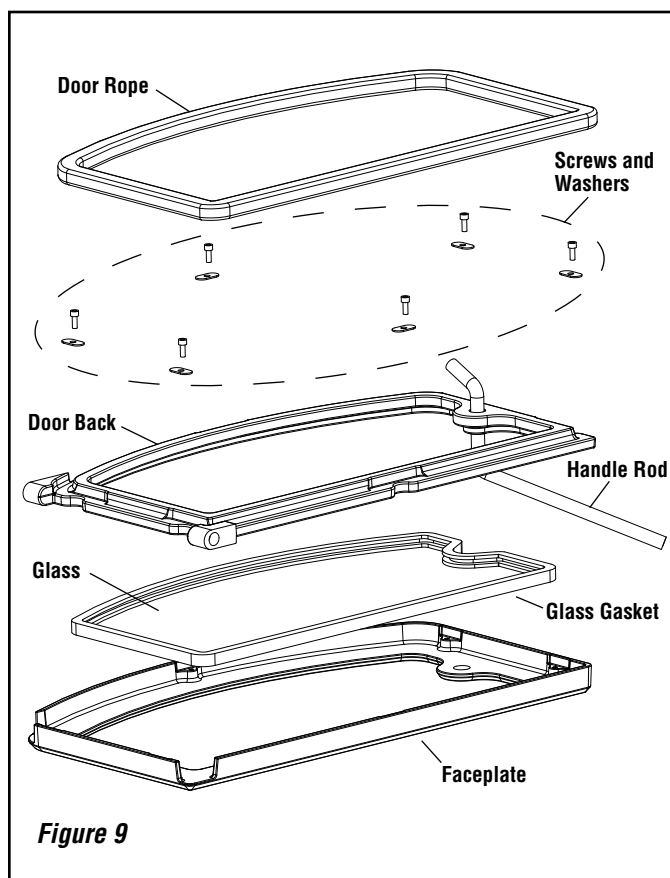

Figure 9
Step 5. Reinstall The Six Screws and Washers - Apply the anti-seize provided before reinstalling the screws. The anti-seize is applied to the screws for ease of the removal of the screws if removal is needed in the future. Ensure that the widest side of the washers is in the direction of the glass as shown in **Figure 9**. Do not tighten screws completely at this time. The door will have up and down play. Place a level on top of the door to level the faceplate. Once the faceplate is level, tighten the six screws. The washers should have a slight bow once they are tightened.